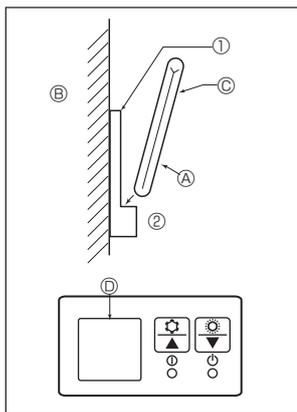
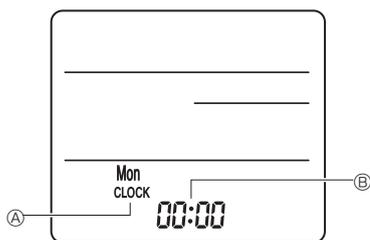

Fig. 6-7
Fig. 6-8
2) Installation method (Fig. 6-7)
- ① Attach the remote controller holder to the desired location using 2 tapping screws.
- ② Place the lower end of the controller into the holder.
3) Setting (Clock setting) (Fig. 6-8)
- ① Insert batteries or press the **CLOCK** button with something sharp. [CLOCK] Ⓐ and [:] Ⓑ blinks.
- ② Press the **RESET** button with something sharp.
- ③ Press the **▲** button to set the time. Press the **DAY** button to set the Day.
- ④ Press the **CLOCK** button with something sharp at the end. [CLOCK] and [:] lighted.